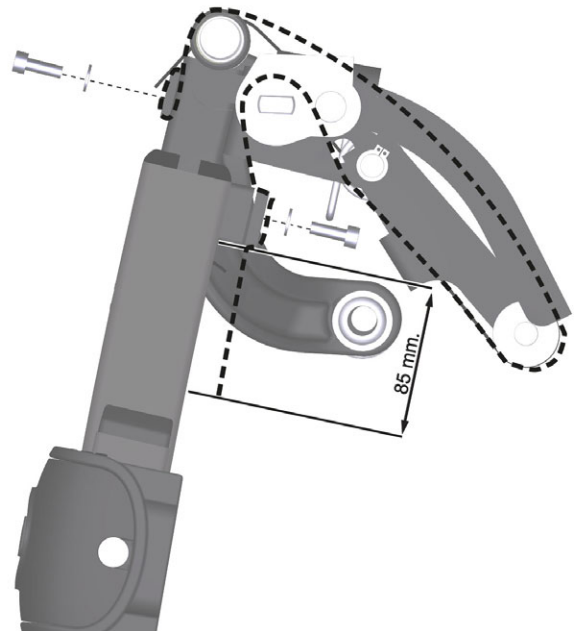

Figure 226. Strap assembling on the legrest.
3. Remove one end of the legrest strap by carefully raising the lower section of the legrest slightly and at the same time removing the two screws on the front of the legrest. Then pull the assembling plate out of the loop of the strap. See fig. 226.
4. Remove the two screws holding the strap bracket on the back of the legrest in place. See fig. 226.
1. Pull the strap through the bracket on the back of the legrest. Measure to make sure that the strap extends 85 mm from the bracket. Secure the strap by tightening the two screws on the bracket. See fig. 226.
2. Slide the lower section of the legrest up and pull the strap through the legrest mechanism. See fig. 226.
3. Place the assembling plate in the loop of the strap and then assemble this on the front of the legrest using the two screws. See fig. 226.